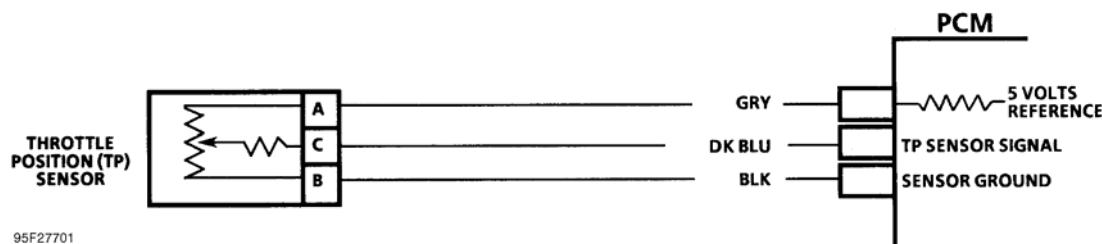

Fig. 1: Typical Throttle Position (TP) Sensor Circuit
1. Install jumper wires to enable connection of a DVOM in parallel between TP sensor harness connectors. Connect DVOM positive lead to Dark Blue wire terminal. Connect negative lead to Black wire terminal. See **Fig. 1** .